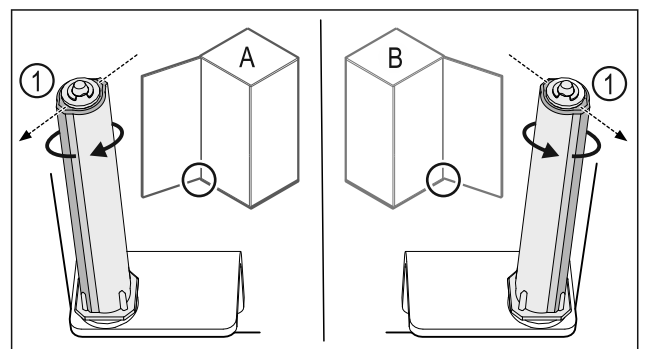

Fig. 44 Left-hinged (A) / Right-hinged (B)
- ▶ Turn the closing system against the resistance until the bar of the closing system Fig. 44 (1) points outwards.